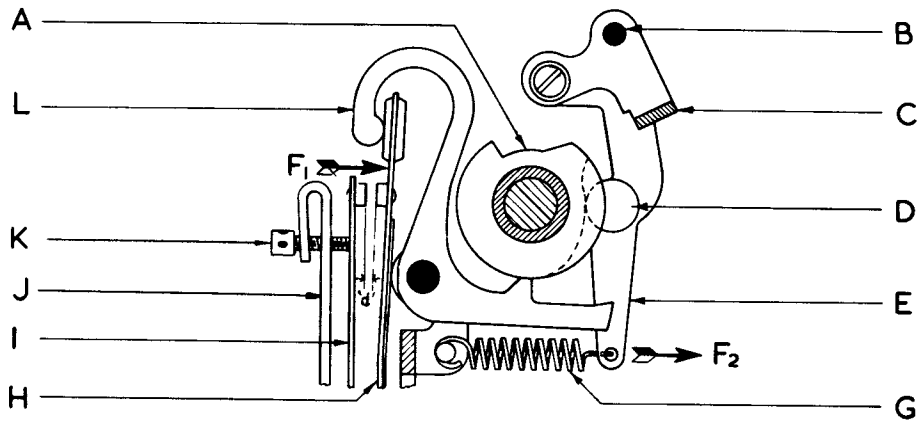

FIG. 4
- (f) Contact Spring operating levers - (L, Fig.4).